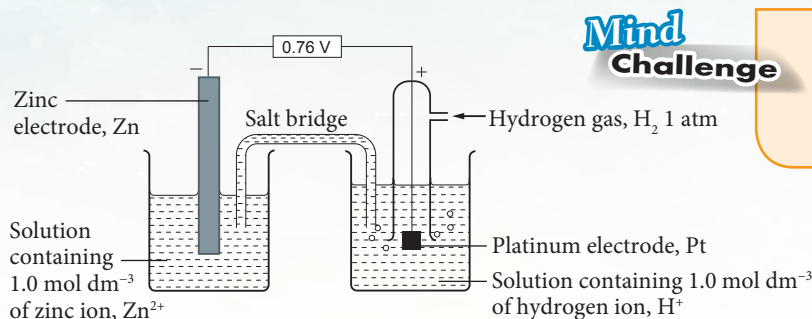

Figure 1.15 Apparatus set-up to determine standard electrode potential, E^0 of zinc
- Figure 1.15 shows the standard electrode potential, E^0 zinc is obtained when a half-cell consisting of a zinc electrode, Zn is dipped into a solution containing 1.0 mol dm^{-3} of zinc ions, Zn^{2+} while connected to a standard hydrogen electrode and a salt bridge.